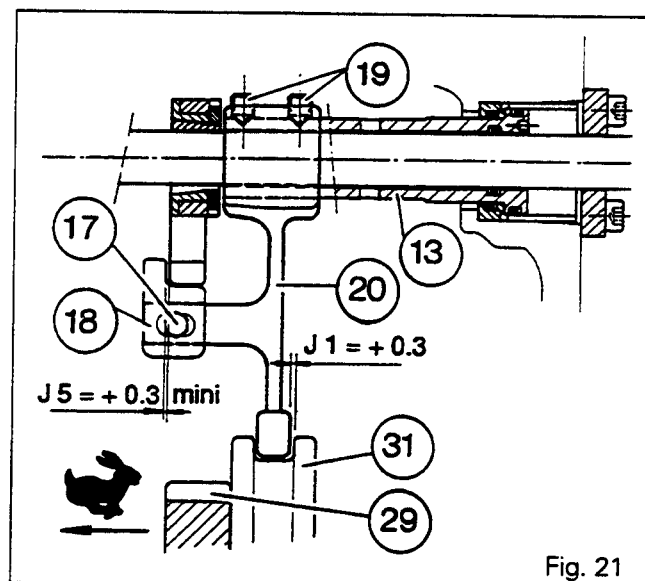

Fig. 21
90. Position the control piston (13) and the slide rod (31) on the high range (Hare).
91. Keep the slide rod resting against the high range gear (29) (Fig. 21).
92. Adjust the position of the fork (20) by acting on the two adjusting screws (19), after cleaning them with a solvent and applying a light coating of Loctite 221, so as to obtain a play of **J1 = 0.3 mm** between the rear face of the pad and the slide rod (Figures 21 and 22).
101. Balance the plays, **J5** and **J6** (**min. = 0.3 mm**), between the slider and the latch in the Hare and Tortoise positions (Figures 21, 23, 27 and 28).